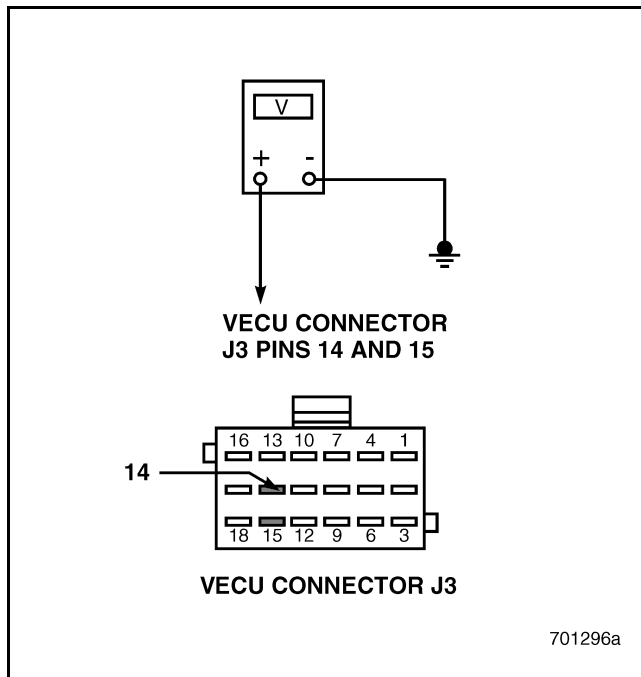

Figure 623
4. Measure the voltage between Vehicle Electronic Control Unit (VECU) connector J3 pins 14 and 15 and a good ground (see Figure 623).